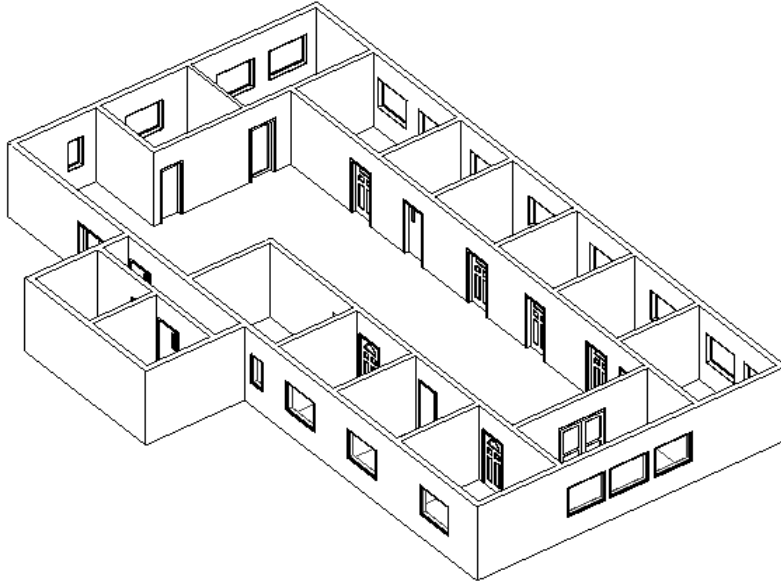

Figure 3-87 3D view of the project
14. To view the plan in 3D, choose the **Default 3D View** tool from **View > Create > 3D View** drop-down; the 3D view of the project is displayed, as shown in Figure 3-87.